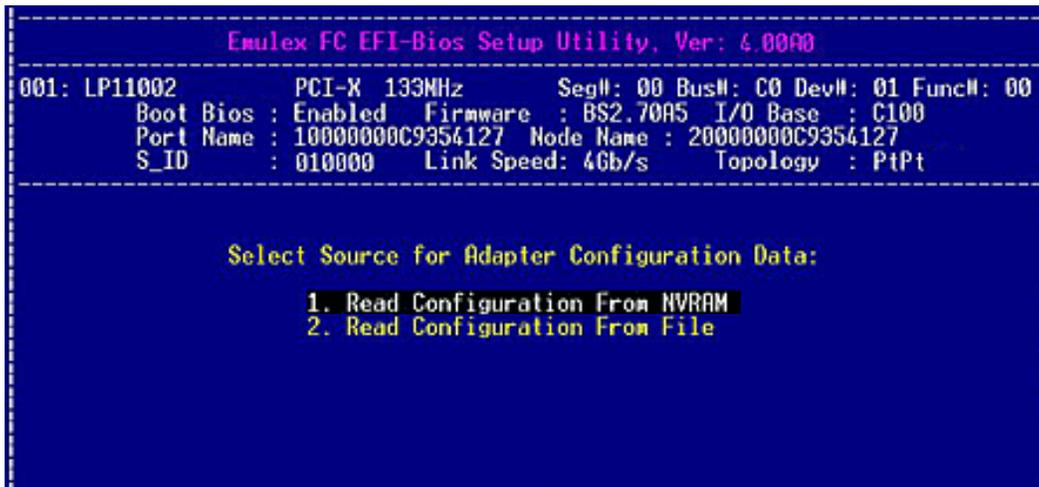

Figure 53: Select Source for Adapter Configuration Data menu
1. On the Save Configuration menu, select **2. Batch Configure Adapters**. You are prompted to select a source for the configuration (Figure 53).
1. On the Save Configuration menu, select, **2. Batch Configure Adapters**. You are prompted to select a source for the configuration (Figure 53).